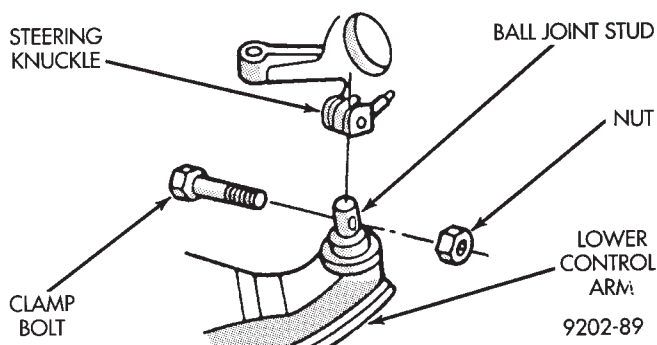

Fig. 1 Control Arm To Steering Knuckle Attachment
(1) Raise vehicle. See Hoisting in Lubrication, Group 0 of this service manual.
(2) Remove the ball joint stud to steering knuckle clamp nut and bolt (Fig. 1).
(4) Separate the steering knuckle from the ball joint stud (Fig. 1).
(2) Install ball joint stud into steering knuckle and install clamp bolt (Fig. 1). Tighten clamp bolt to 145 N•m (105 ft. lbs.).
(3) Position sway bar and bushings against the lower control arms. Install sway bar to control arm retainers. Install retainer bolts and tighten nuts to 70 N•m (50 ft. lbs.).
(4) Lower vehicle so the suspension is supporting vehicles weight (control arm at design height). Tighten the lower control arm to crossmember attaching bolts to 169 N•m (125 ft. lbs.) torque.